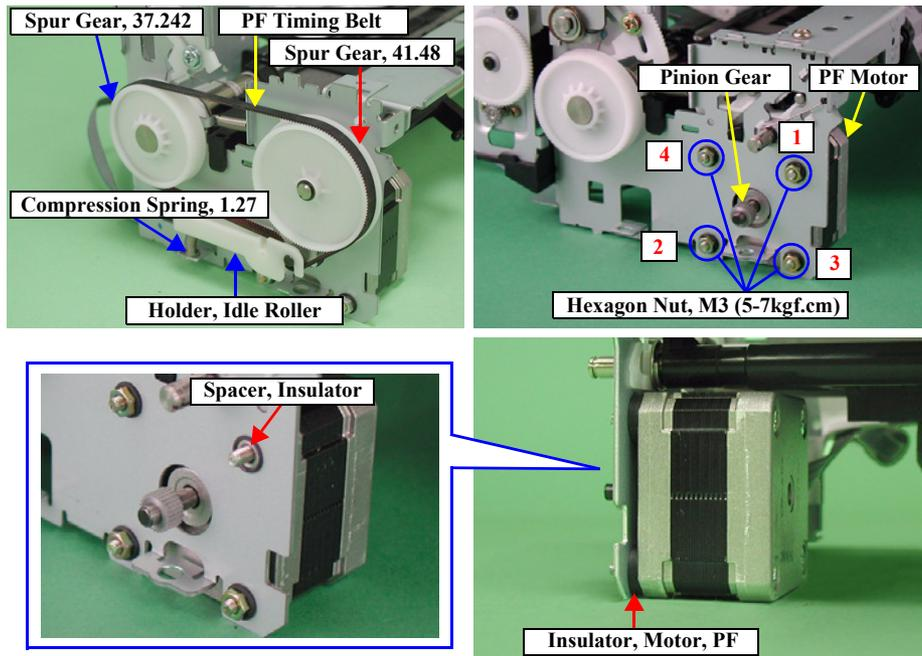

Figure 2-48. PF Motor Removal
- Tighten the four nuts to secure the PF Motor in the order shown in Figure2-48.